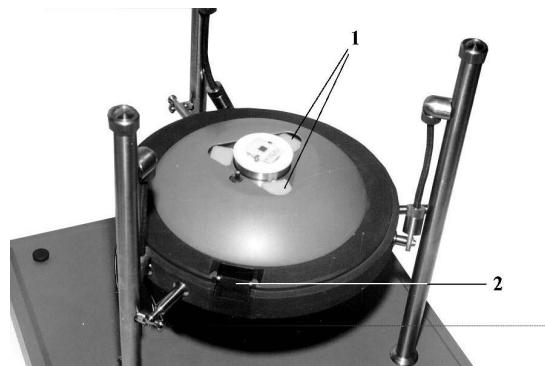

Fig. 32
Install the legs of the measuring head on the supporting plates so (1) that cable going from the head is in front of the socket (2) designed for it (Fig. 32). Insert the holder on the cable into the socket (Fig. 33). Watching from the side, approach the sample manually to a distance of 2-3 mm from the probe. Looking down on the head, place the probe over the area selected for investigation, then again from the side watch the approach of the sample to a distance of 0.5-1 mm (Fig. 34). It is advisable to have the investigated area of the sample on the scanner axis i.e. in the middle of the line connecting the substrate clips. Should the investigated sample be located away from the scanner axis there will be a parasitic incline of the surface in the course of scanning. It limits the use of some features and makes the operation more difficult.